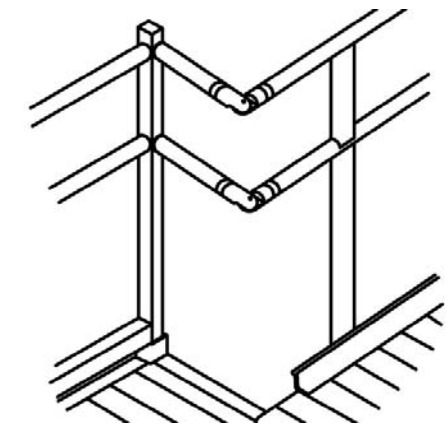

FIG. 38
- viii) Insert cut tube into place and tighten all setscrews on ring joiners and adjustable elbows (FIG 38).